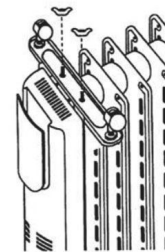

Fig. 3
4. Draw up two finger nuts on one side and two finger nuts on the other – in clamp extensions passed through the wheel plate supports, after making sure that 2 openings in the wheel plate match together with the clamp extensions (see Figure 3).